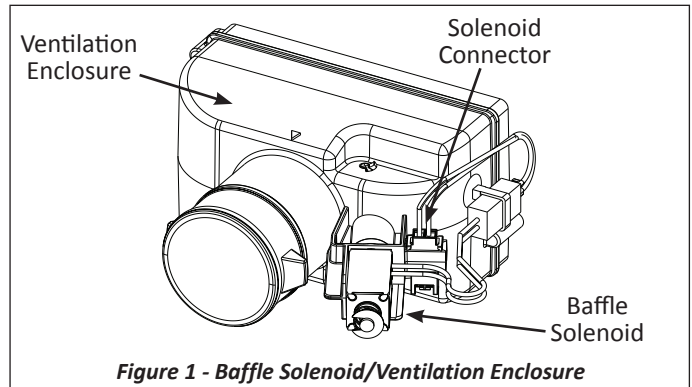

Figure 1 - Baffle Solenoid/Ventilation Enclosure
5. With an ohmmeter, check harness for continuity between the solenoid and the ACU (see Figures 1 & 2).